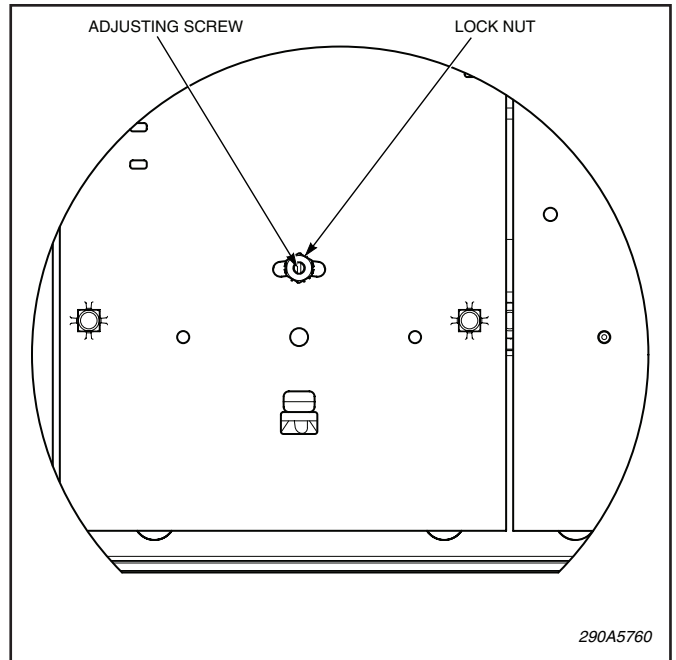

Figure 4.
D. *Halogen Lamp Adjustment (See figure 4).*